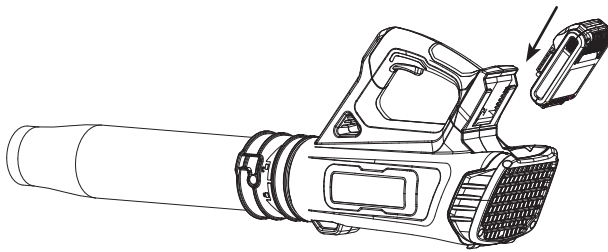

FIG 4
- To install the battery pack, slide the battery pack into the battery holder at the end of the product housing all the way until it locks in place with a click, as shown in Fig 4. Lightly pull on the battery to ensure it is locked into place and will not accidentally fall out of the product.